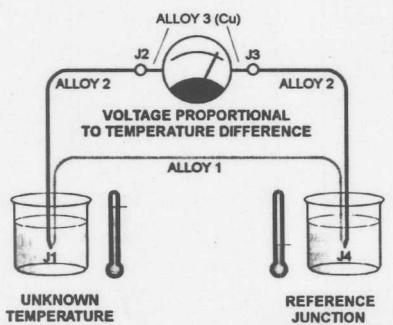

Figure 1. Thermocouple principles (the Seebeck Effect)
**I**magine an electronic sensor technology that's simple, cheap, reliable and 200 years old. Look no further than the popular thermocouple. In the early 1800s, Thomas Seebeck discovered that the junction of two metals generates a voltage that depends on temperature. Many lab students have begun their association with thermocouples by exploring this relationship with a set-up similar to that shown in Figure 1. They measure an unknown temperature using a pair of thermocouple junctions, one of which is immersed in an ice water bath. After making voltage measurements, they determine the unknown temperature using a thermocouple look-up table.
In Figure 1, it is obvious that connecting the thermocouple to a voltmeter input introduces more metal junctions into the circuit (J2, J3), both of which can generate additional thermal EMFs. Ideally, these terminals will be at the same temperature to eliminate additional error voltages, but this can be assured by mounting them to an "isothermal block" (Figure 2A). The isothermal block offers sufficient mass to withstand minor fluctuations in ambient temperature and maintain the attached terminals at the same temperature. This block can be integrated directly into the measurement hardware.
Modern thermocouple measurement instruments do not use the ice bath and corresponding reference thermocouple shown in Figure 1. This eliminates the need for a potentially large number of input channels for the references, not to mention the hassle of dealing with ice. Historically, the purpose of the ice bath was to force the reference junction to a